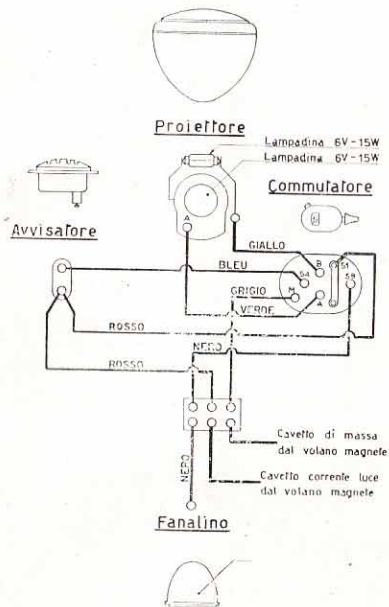

Fig. 5
(b) Take out the internal tube (20) with the aid of a pin (21) introduced in the two opposing holes at the extreme end of this tube. Tap the pin with a mallet and at the same time rotate tube (20) back and forth as indicated in figure 5.